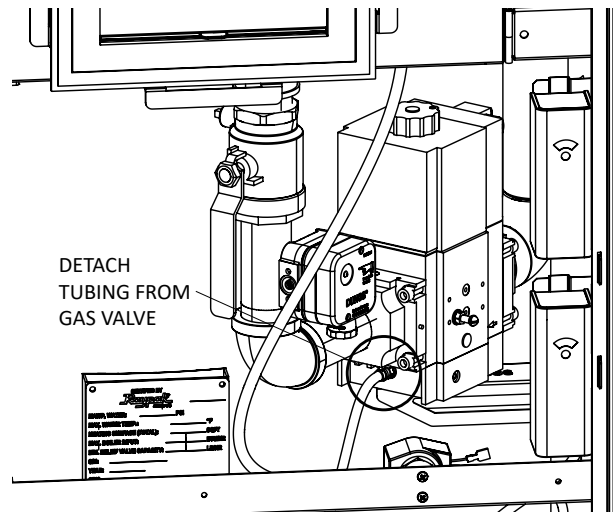

Figure 2. Detach Tubing from Gas Valve
7. Detach the flex tubing from the bottom of the gas valve port. See **Figure 2**.